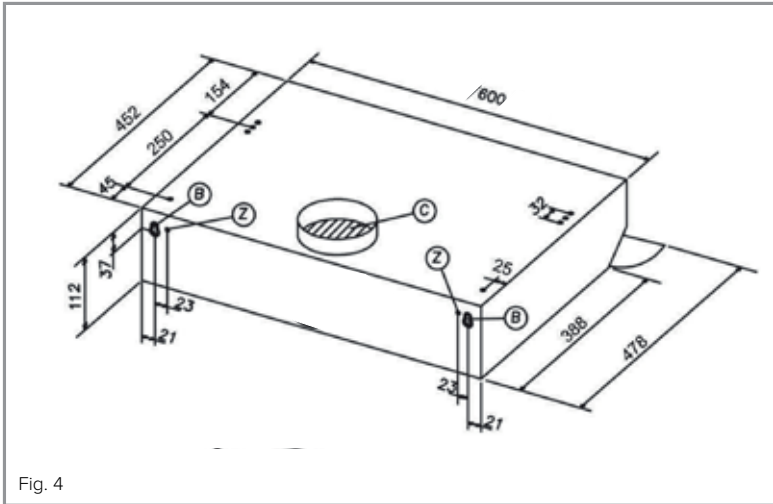

Fig. 4
2. Drill four holes as shown as “B” and “Z” in Fig. 4.
For extraction mode, set the lever “L” (Fig. 5) to position “A”. The extracted air is then routed through the outlet “C” (Fig. 4).
For recirculation mode, set the lever “L” (Fig. 5) to position “F”. Then, fit the outlet cover (pictured below) to the outlet marked ‘C’ in fig. 4. Secure this cover in place with the two screws provided.